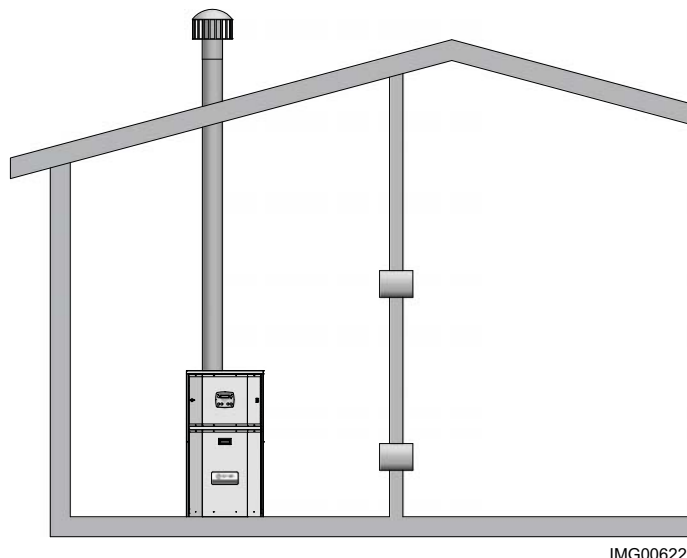

Figure 1-4_Combustion Air from Interior Space
3. If air is taken from another interior space, each of the two openings specified above should have a net free area of one square inch for each 1000 Btu/hr (22 cm² per kW) of input, but not less than 100 square inches (645 cm²) (see FIG. 1-4).